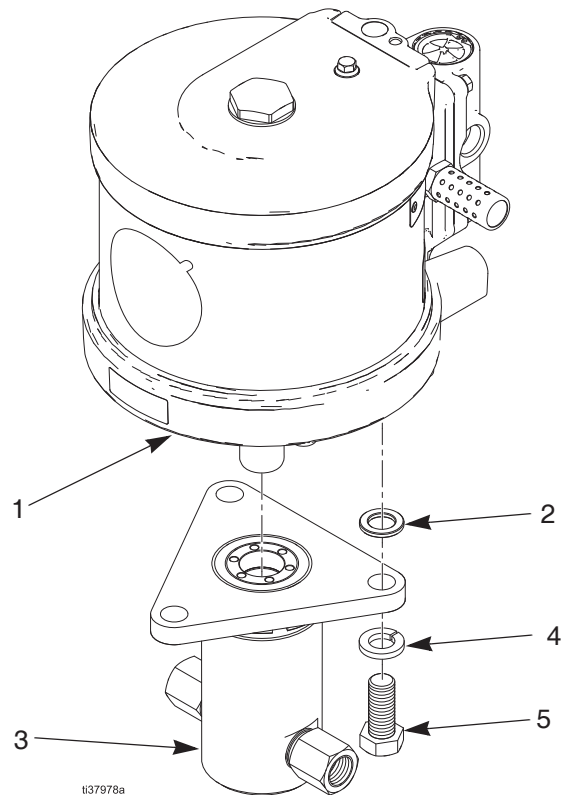
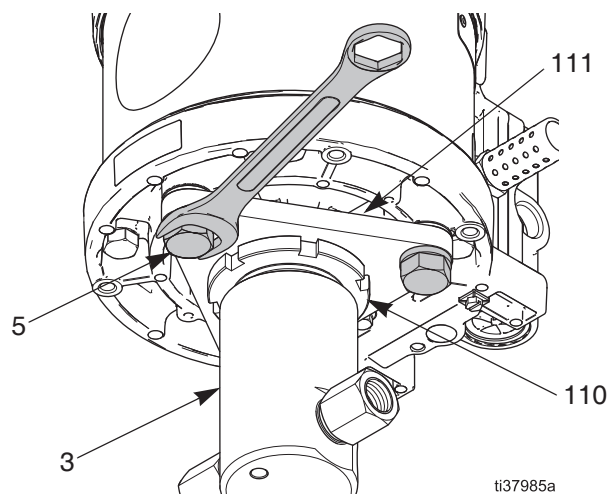

FIG. 4
FIG. 5
- Slide the pump lower (3) off of the pump, with the lower bracket (111) and locking ring (110) still attached to the pump lower.
NOTE: Set aside the screws (5), lock washers (4), and spacers (2), which are shown in FIG. 4. These will be needed to **Reconnect the Pump Lower**, page 16.
2. Install the screws (5), lock washers (4), and spacers (2), as shown in FIG. 4, and align with the holes in the bottom of the pump (1), as shown in FIG. 5.